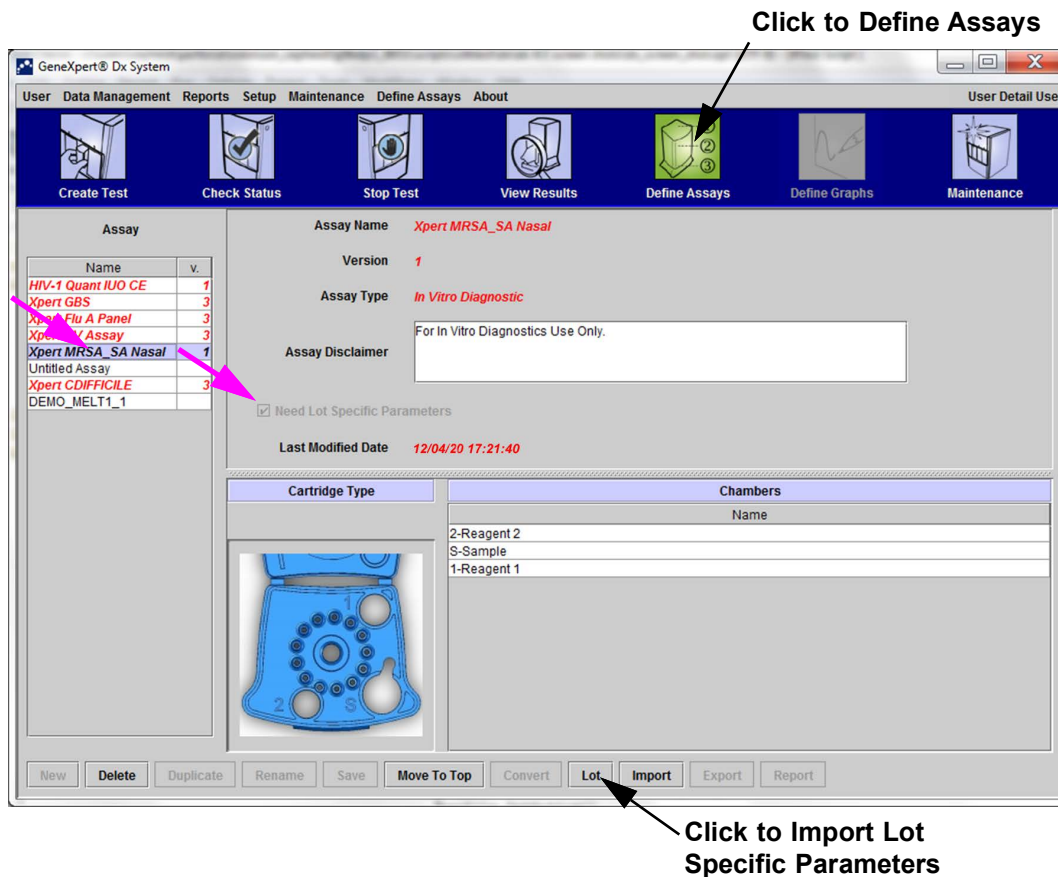

Figure 2-73. Define Assays Window, showing Need Lot Specific Parameters Box Checked
2. Click **Import**. The Import Assay dialog box appears. See Figure 2-73.